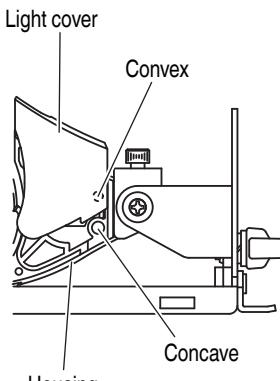

Fig. 18 <Side View>
- (1) Remove the convex part of the light cover from the concave part of the housing, and then pull out the light cover in the arrow-marked direction as shown in Fig. 18.